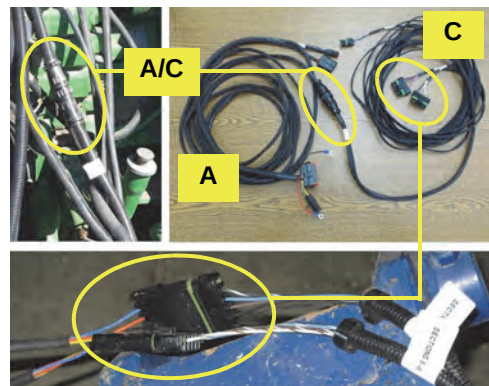

Figure 2a: Interface cables connected
- Install planter interface/extension cable **C** between the 12-pin AC110 interface cable **A** and the Tru-Count 6-pin air-clutch valve connectors (Figure 2a, top images).
- Separate the boom switch connectors and connect the two branch cables of interface cable **A** to their corresponding separated connectors (Figure 2a, lower image).